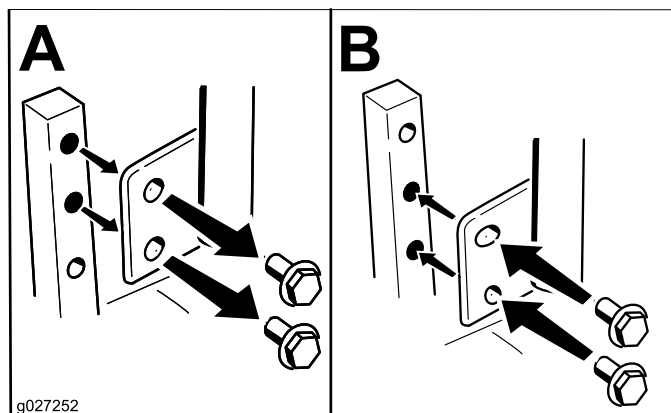

Figure 22
The motion-control levers can be adjusted higher or lower for maximum operator comfort (Figure 22).
2. Loosen the lower bolt just enough to pivot the control lever fore or aft (Figure 22). Tighten both bolts to secure the control in the new position.